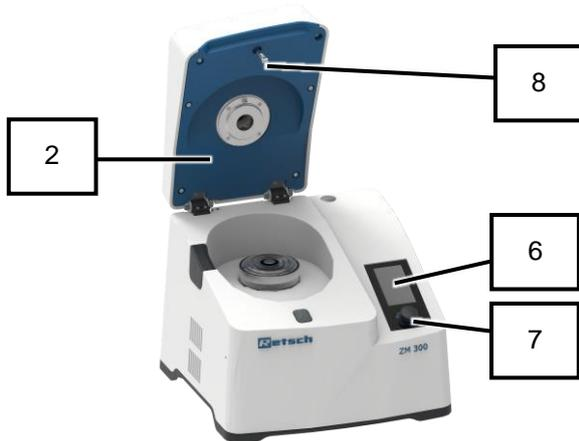

Fig. 62: Bottom of device hood
1. Switch on the device with the main switch (16) at the rear of the device.
- ➔ The touch display (6) is activated and the background of the control dial (7) briefly lights up in blue.
2. Press  on the touch display (6) to unlock the device hood (2).
3. Open the device hood (2) by hand.
4. Switch off the device with the main switch (16) on the back while the device hood (2) is open.
- ➔ Touch display (6) goes out.
- ➔ The device is switched off and the device hood (2) is open (Fig. 62).